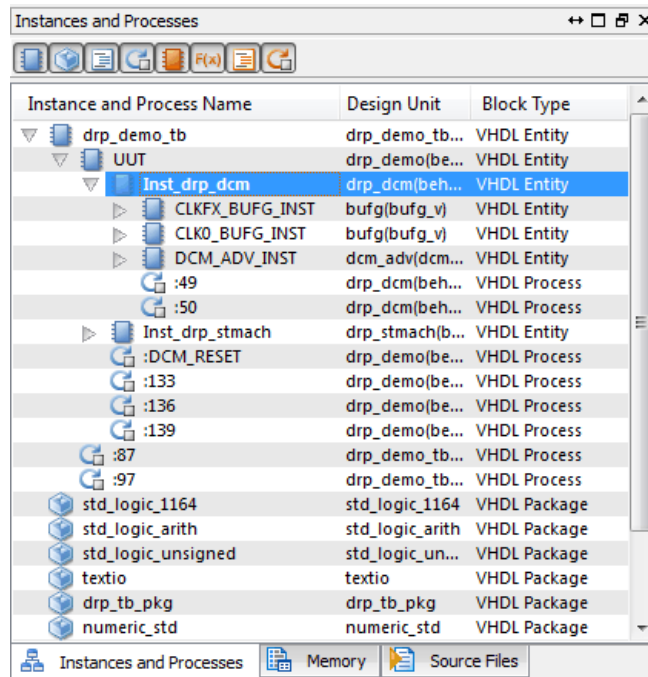

Figure 4-19: Instances and Process Panel
1. In the Instances and Processes panel, expand the hierarchy by clicking once to the left of each child module (refer to Figure 4-19).